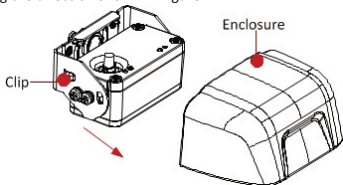

Figure 1 Separate Enclosure and Main Body
Step 1 Press the clips at the sides of enclosure and separate the enclosure from the main body along the direction shown in Figure 1.